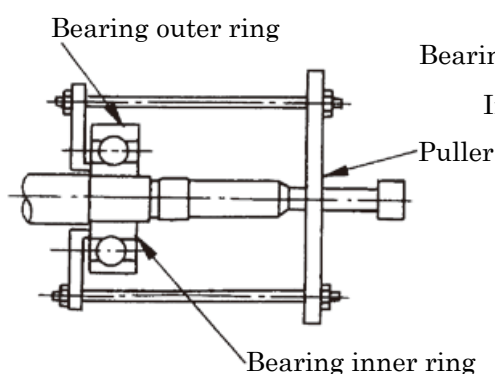
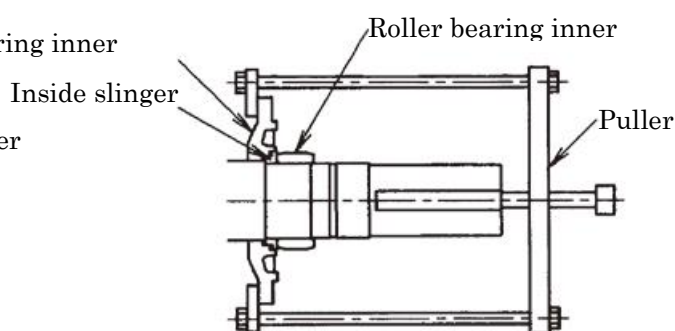

Fig.18 Removal of ball bearing
Fig.19 Removal of roller bearing inner ring
- (3) Pull out the ball bearing (Fig. 18) and roller bearing inner ring (Fig. 19) with a puller. In case of grease-replenish type structure, pull out above parts together with bearing inner cover and inside slinger.